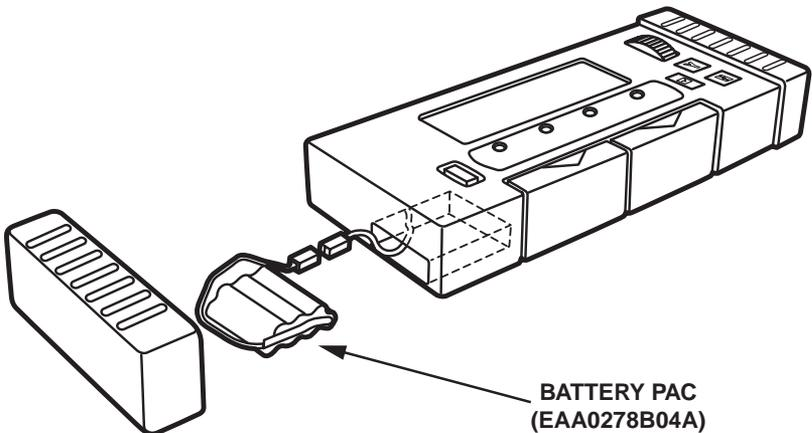

Figure 3. Replacing the MTG2500 internal battery pac.
2. Slip the battery pac out of the Scanner body and separate the wire connector, figure 3.